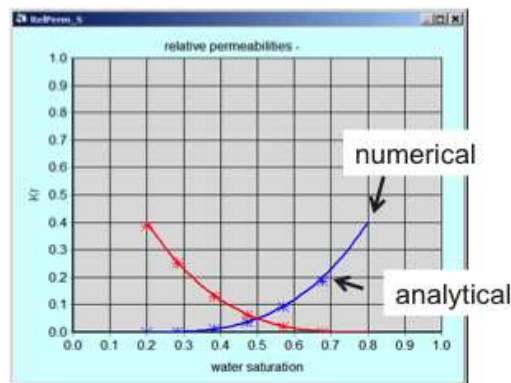

Figure 19: Difference between analytical and numerical results.
- with analytical calculation (Figure 19, symbols) $S_w(\text{final}) = 0.68$
- with numerical simulation (Figure 19, solid line) $S_w(\text{final}) = 0.80$